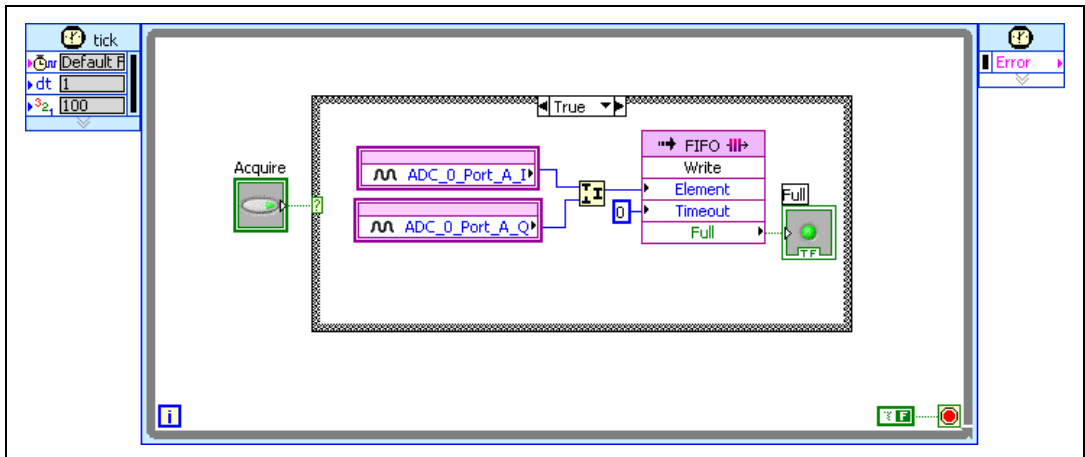

Figure 14. Timed Loop Setup
12. Create a case structure around the code as shown in Figure 14. This image does not show the Configuration Timed Loop.